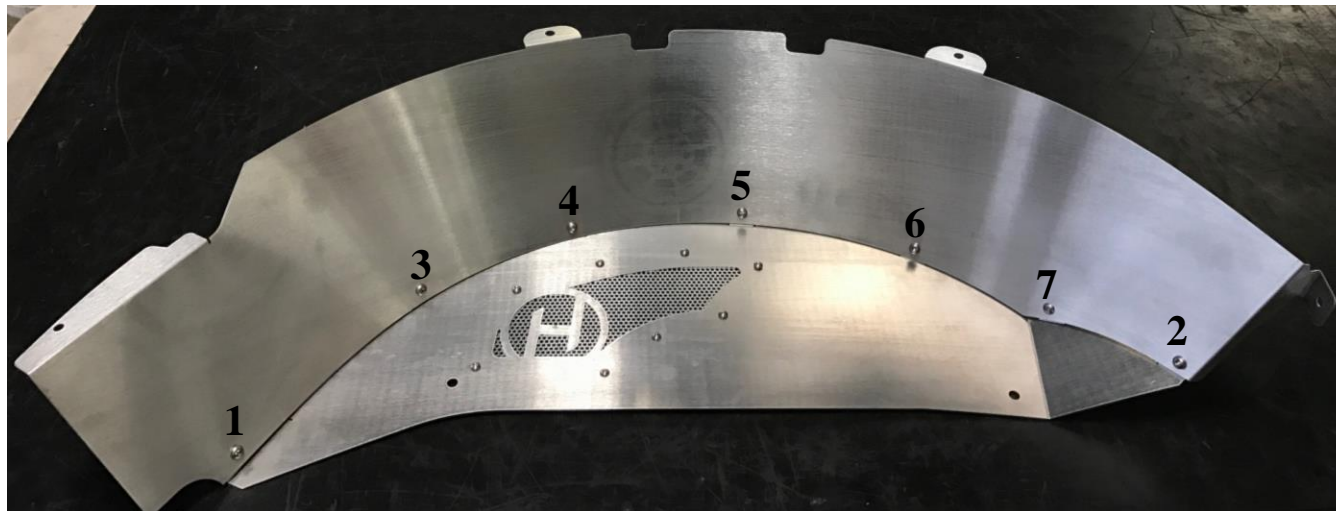

Figure 4
Step 5 – **Apply anti-seize to all stainless steel threads prior to fastening.** Using the supplied 10-32 button head screws and nylon lock nuts, assemble the perforated panel. Then, using the supplied ¼-20 x ½” button head screws and nylon lock nuts assemble the panels together as shown below in (**Figure 4**). Fasten the screws in the order shown 1 thru 7 for easy assembly. Once all screws are installed you can tighten all of them.